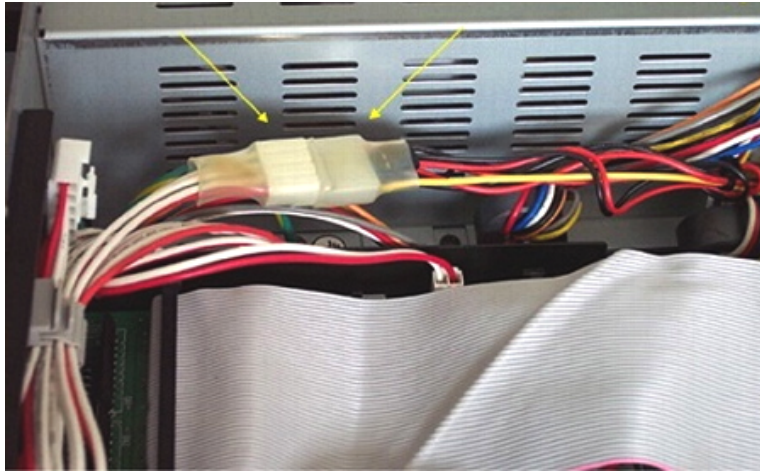

Figure 9. The power connector that is required for both options.
- 6) The power adapter consists of a regular 4-pin **hard drive** power connector which is connected to a 4-pin flat connector that is in turn connected to the small 4-pin EX5R power connector with metal pins (check arrows in Figure 9). The red wire of the small EX5R connector carries 12 Vdc and needs to be connected to the yellow cable of the HD power connector. The two white cables next to the red cable (EX5R side) are the ground wires and they must be connected to the black wires of the HD power connector. Finally the last white wire is connected to the red wire of the HD power connector. It's the 5 Vdc line for the logic circuits.